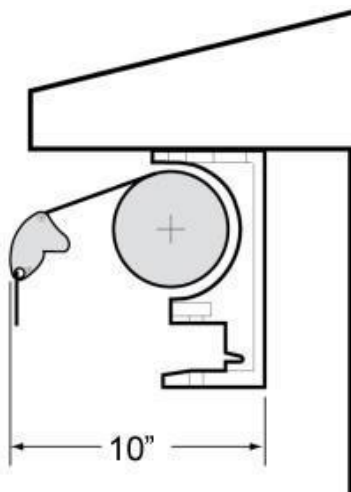

Figure 12
**When drawing your line under the eaves, consider that when retracted, the awning will still extend 10" forward from the chalk line. See figure 12.**